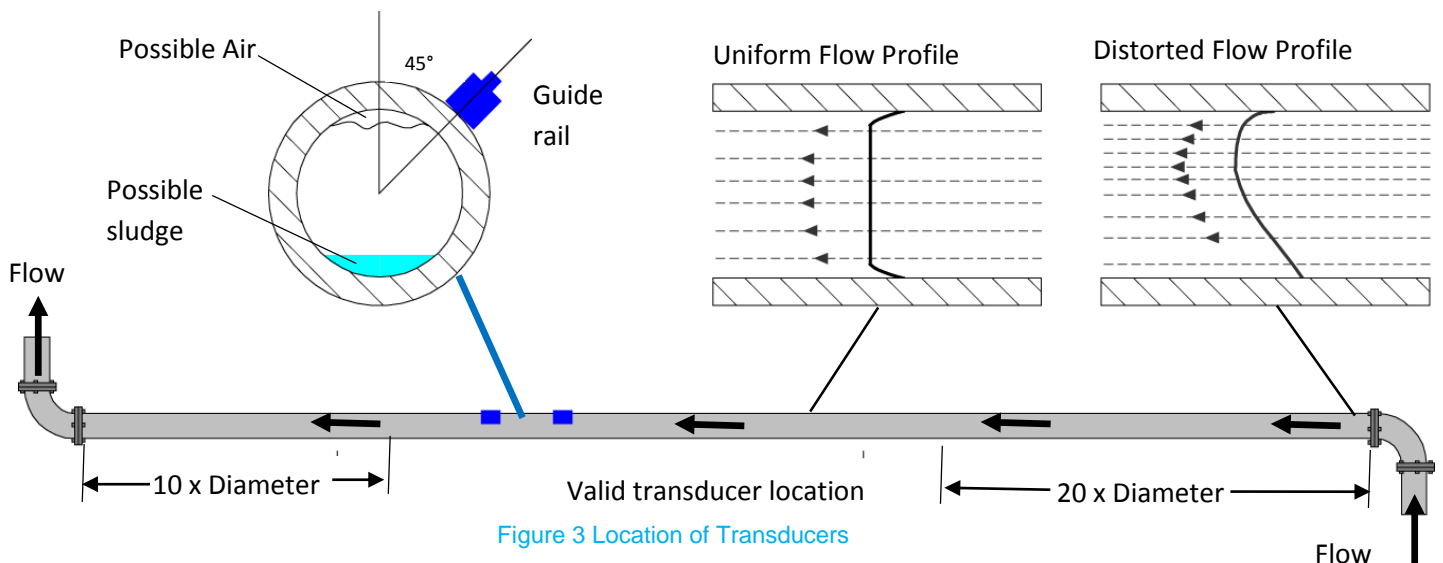

Figure 3 Location of Transducers
To obtain the most accurate results the condition of both the liquid and the pipe must be suitable to allow ultrasound transmission along the predetermined path. It is important that liquid flows uniformly within the length of pipe being monitored, and that the flow profile is not distorted by any upstream or downstream obstructions. This is best achieved by ensuring there is a straight length of pipe upstream of the transducers of at least 20 times the pipe diameter, and 10 times the pipe diameter on the downstream side, as shown in Figure 3. Flow measurements can be made on shorter lengths of straight pipe, down to 10 diameters upstream and 5 diameters downstream, but when the transducers are mounted this close to any obstruction the resulting errors can be unpredictable.
1. Before attaching the transducers first ensure that the proposed location satisfies the distance requirements shown in Figure 3 otherwise the resulting accuracy of the flow readings may be affected.